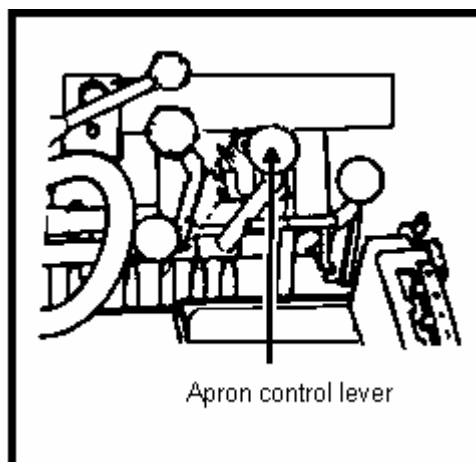

Figure 052-227-1241-1
- a. Push the apron control lever forward and raise the apron to the full open position (Figure 052-227-1240-1). Instruct the assistant to install the two apron lock pins in the apron.